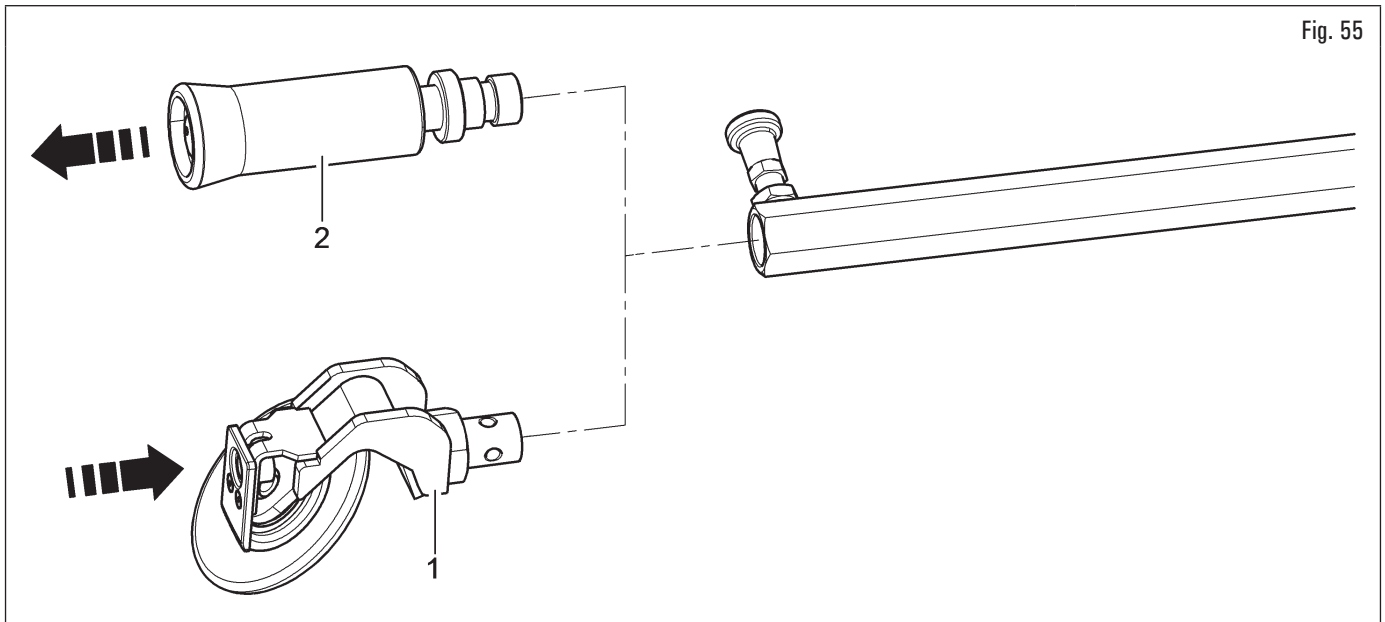

Fig. 55
- make sure that the tilted roller (Fig. 55 ref. 1) is mounted on the bead press-lift device instead of the bead press roller (Fig. 55 ref. 2).